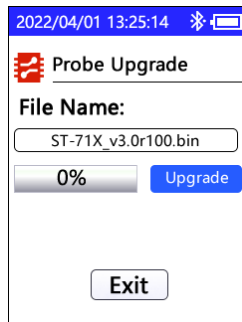

Figure 31. Sensor Upgrade
3. NanoView UC-10 will automatically recognize the name of the imported firmware (Figure 31).